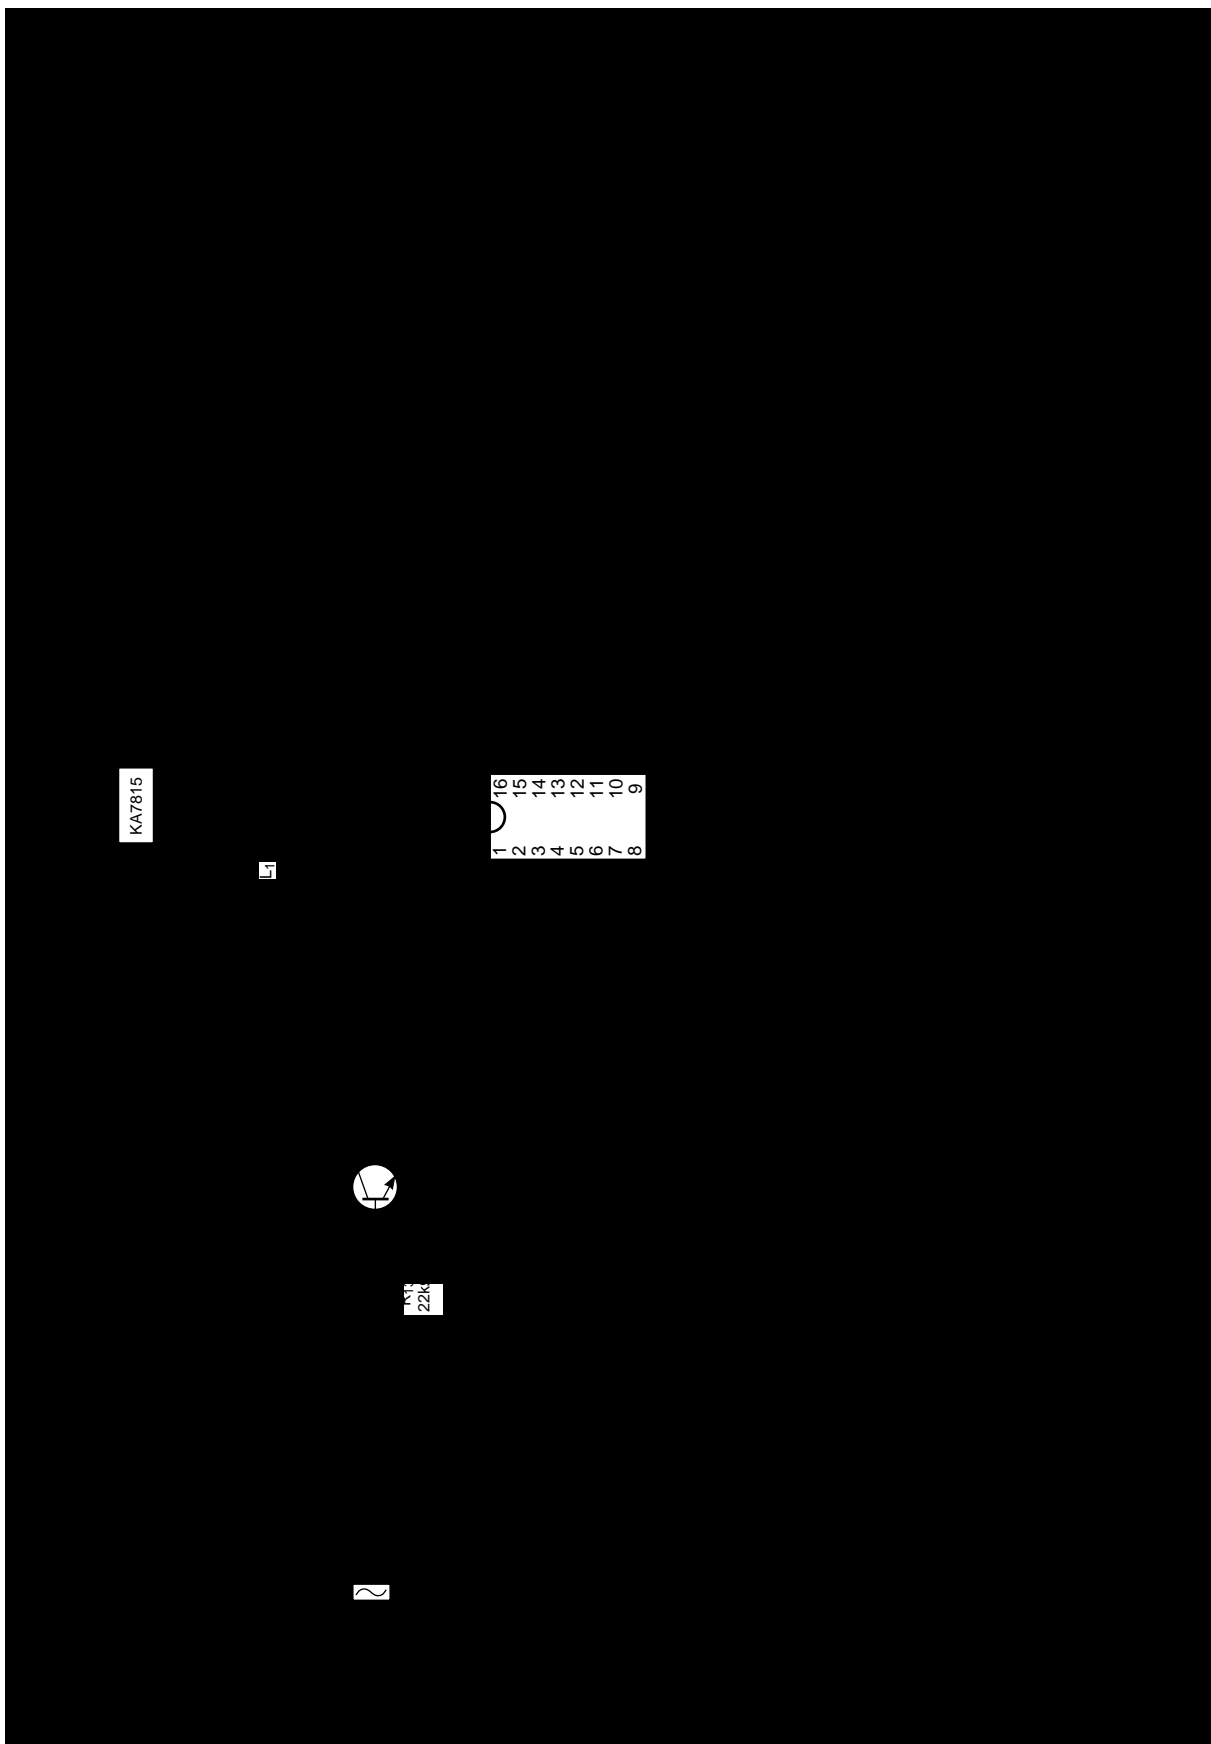

Figure 12. Typical Application 200W Power Factor Correction Circuit
The power factor enhancement circuit shown in Figure 12 is described in detail in Application Note 11. It improves the power factor and lowers the input current harmonics. Note that the circuit meets IEC 1000-3-2 specifications (with the enhancement) on the harmonics by a large margin while correcting the input power factor to better than 0.99 under most steady state operating conditions.
The second form of noise coupling is due to fast changing voltages (high dv/dt). The main source in this case is the drain of the power FET. The radiated noise in this case can be minimized by insulating the drain of the FET from the heatsink and then tying the heatsink to the source of the FET with a high frequency capacitor (CH in Figure 12).
**Table 2. Component Values/Bill of Materials for Figure 12**